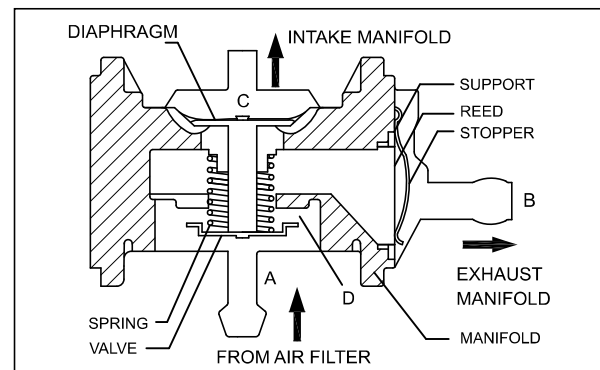

Fig. 4.47
- Clean air from the air cleaner assembly is passed through the inlet port (A). The outlet (B) which has a reed valve connected to exhaust manifold. Another line from intake manifold is connected to chamber (C). The port (D) has a smaller orifice than the other ports. The fresh and filtered air passes from port (A) to port (B) through this orifice. When there is a suction in chamber (C) the diaphragm is pulled up, closing the valve at port (D). The airflow from port (A) to (B) is stopped. Depending upon the amount of vacuum created in the intake manifold, the amount of airflow from port (A) to (B) is controlled. (Fig. 4.47)